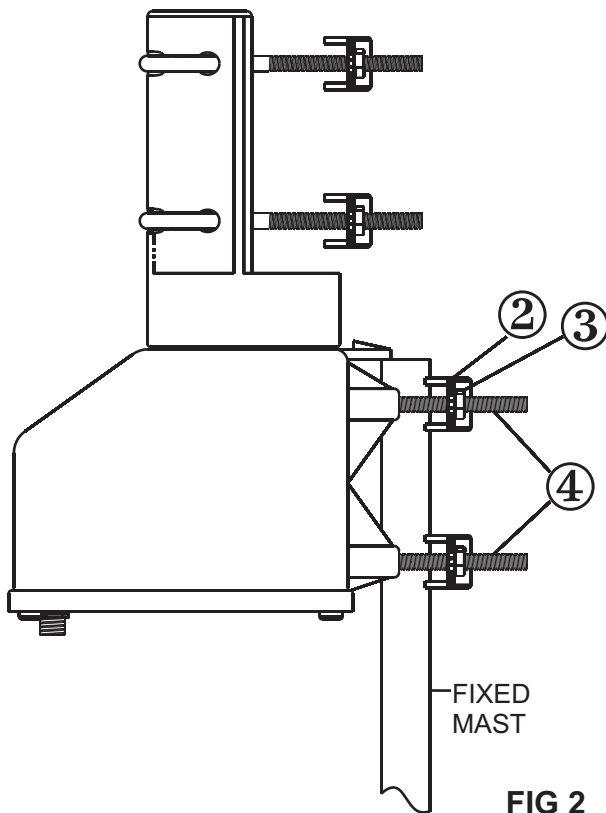

FIG 2
- Attach the Rotator to the mast by installing the four bolts ④ and tightening the two C-clamps ② evenly, using the four nuts ③. See Fig 2